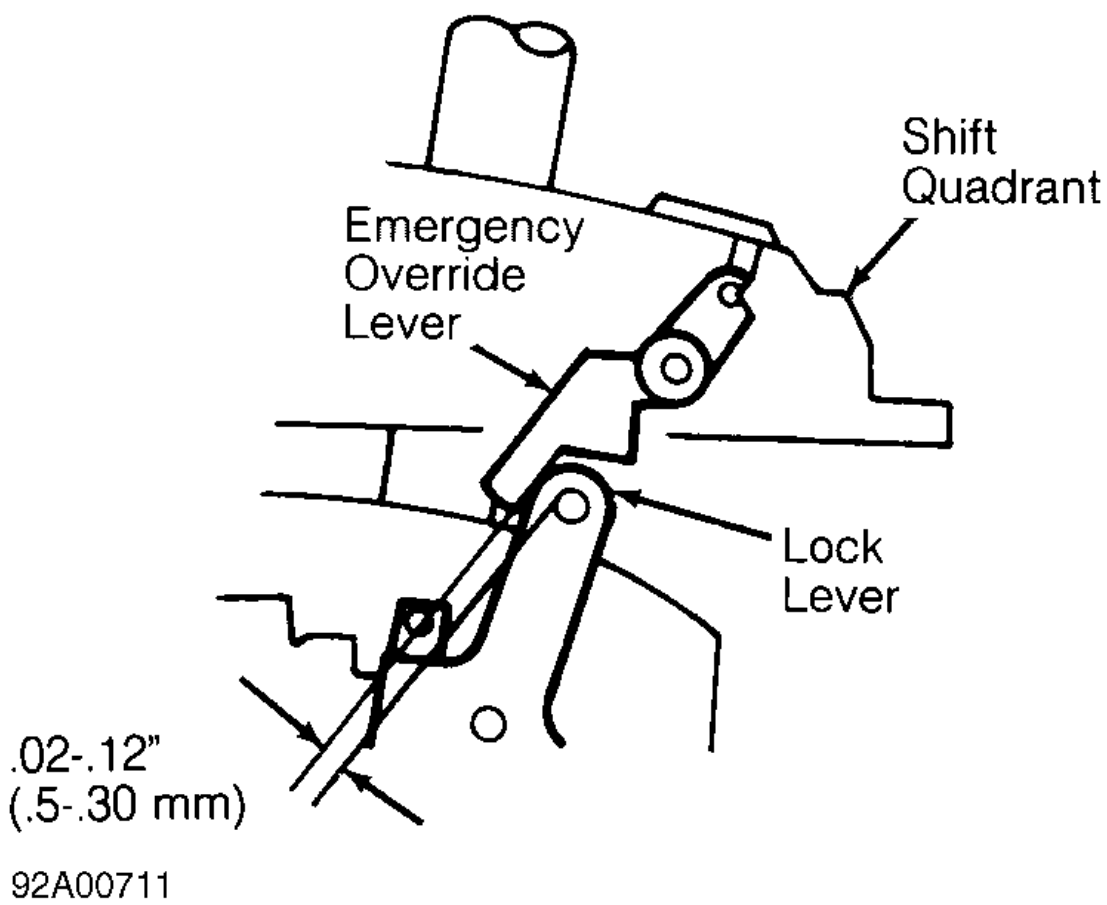

Fig. 4: Checking Lock Lever Clearance
- 2. Install quadrant and remove alignment pin. Ensure clearance between lock lever and emergency override lever is correct. See Fig. 4 . Install lock nut and shift lever knob. Tighten lock nut to 11-15 ft. lbs. (15-20 N.m). Install console.